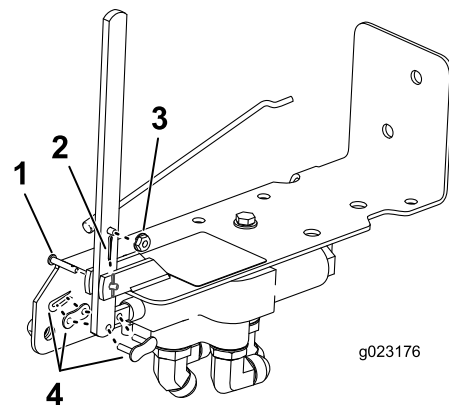

Figure 13
6. Secure the lever to the valve using the link assembly on the bottom hole of the lever (Figure 13).
Note: Assemble the rod so that the switch assembly is centered between the Forward and Reverse positions. Add thread locking adhesive to the nut and tighten onto the rod assembly (Figure 13).